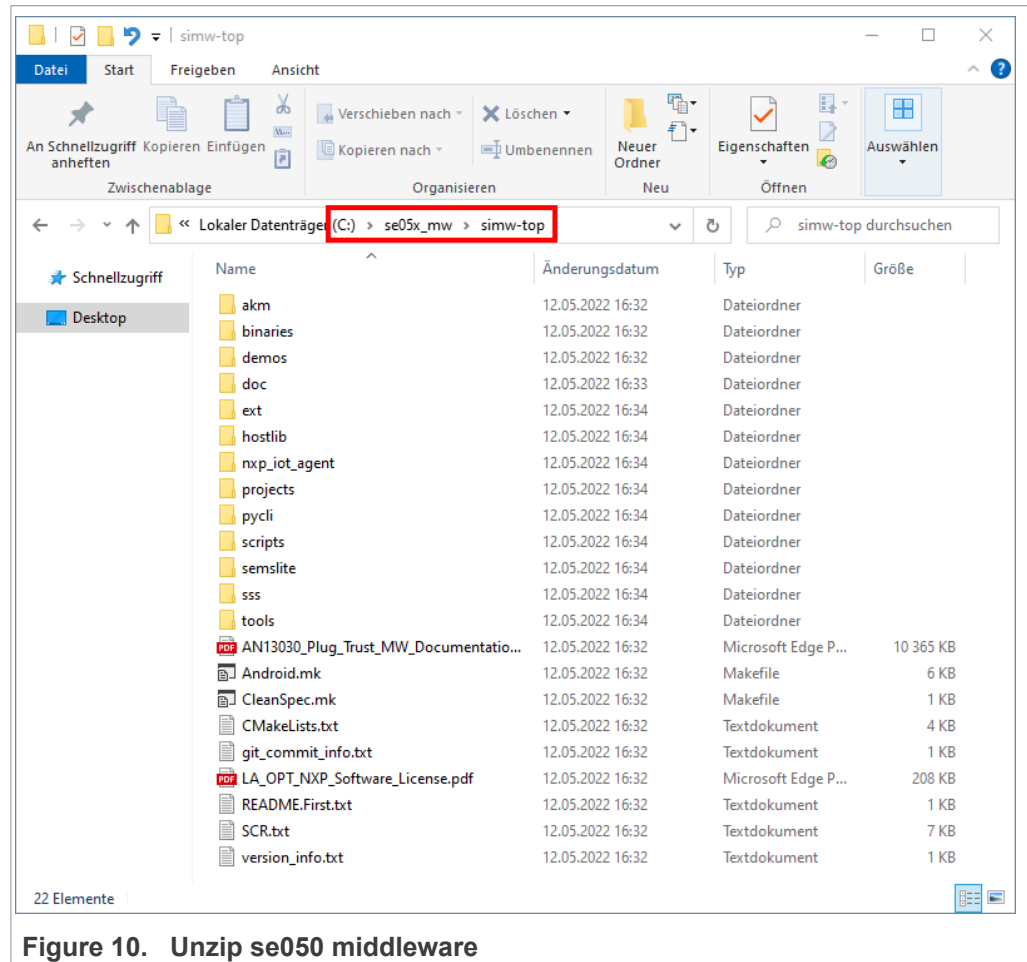

Figure 10. Unzip se050 middleware
- Unzip the Plug & Trust middleware inside the `se05x_mw` folder. After unzipping, you will see a folder called **simw-top** created. The contents of the **simw-top** directory should look as shown in Figure 10: